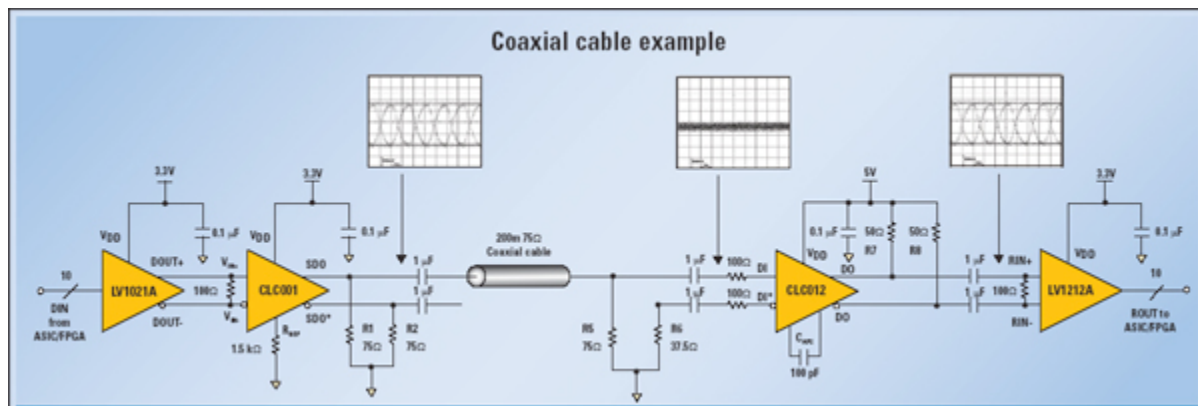
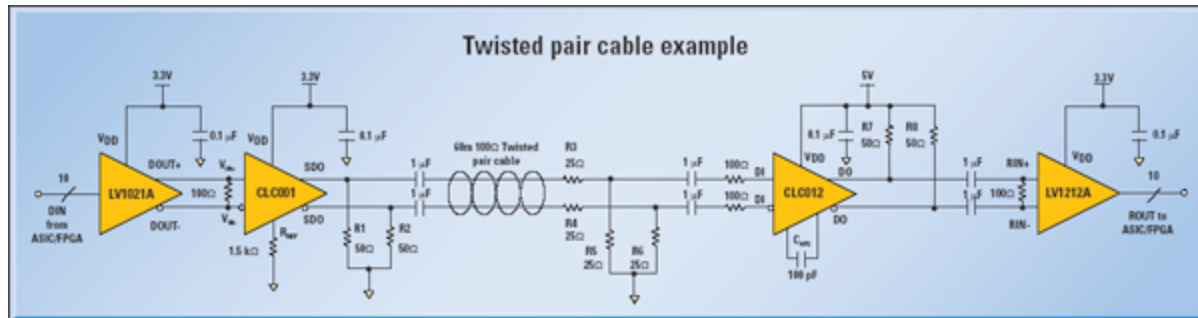

Figure 1: Example of a communication channel employing LVDS 10-bit SerDes and SDI cable driver/equalizer combo to transmit data over coaxial cable
Figure 2: Example of a communication channel employing LVDS 10-bit SerDes and SDI cable driver/equalizer combo to transmit data over twisted pair cable
Systems employing LVDS devices without any signal conditioning features can typically achieve transmission distances of several meters. Those employing LVDS ICs with driver pre-emphasis and receiver equalization can reach 15- to 20-meter distances. Systems that use LVDS interface devices but are required to transmit data across long distances (from several tens of meters to even hundreds of meters) must employ devices specifically designed to drive long transmission lines to work in conjunction with the LVDS devices. Figure 1 is an example of a communication channel in such a system.
Figure 2 is a block diagram of a communication channel that employs LVDS 10-bit SerDes and SDI cable driver / equalizer combo to move data across twisted pair (TP) cables. The only difference between this channel and the channel in Figure 1 (besides different cable) is in resistor values of R1 through R6. These resistors were experimentally determined; they adjust signals for optimal equalization.
Both circuits illustrated in Figures 1 and 2 were constructed using evaluation kits of the respective devices and tested using a bit-error rate tester. Both circuits exhibited operation without errors. The input was a 10-bit wide pseudo random bit stream (PRBS-15) latched in by a 40 MHz clock ($DS92LV1021A T_{CLK}$). The equivalent data rate transmitted through the cables was 480 Mbps.